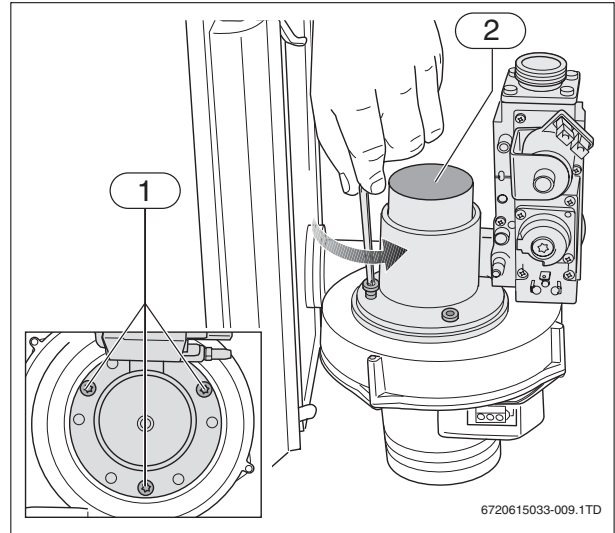

Fig. 8 Removing the screws and gas valve with venturi
- ▶ Undo the three screws (→ fig. 8, [1]) and remove the gas valve with the venturi from the fan unit (→ fig. 8, [2]).